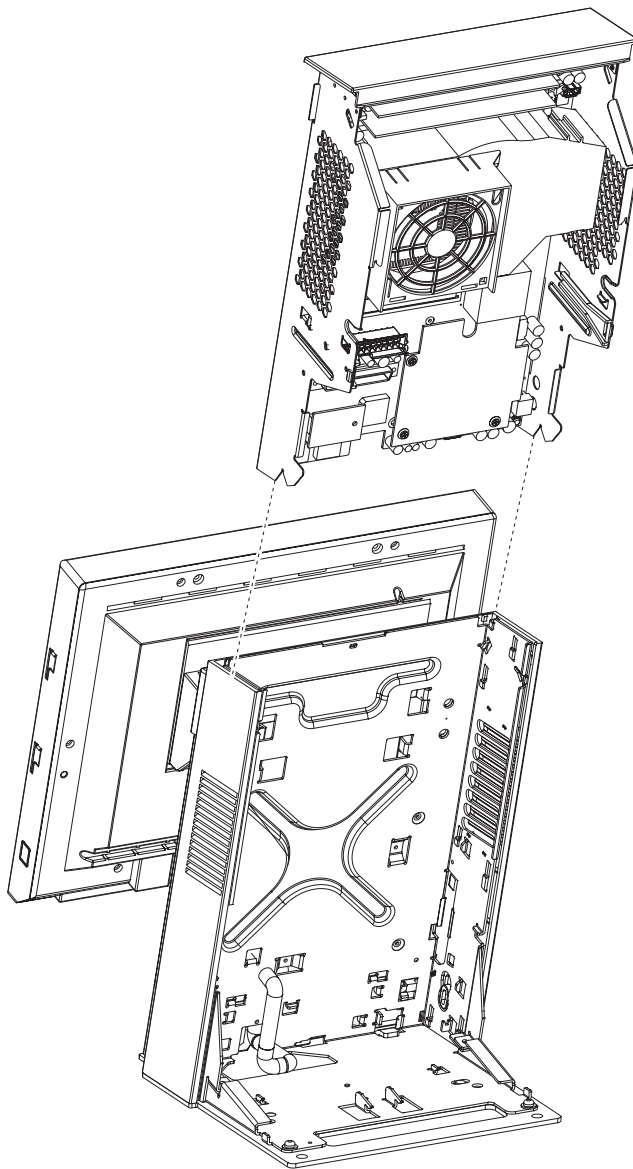

Figure 26. Removing the system board
5. Grasp the entire assembly and slide it out toward the top as shown in Figure 26.